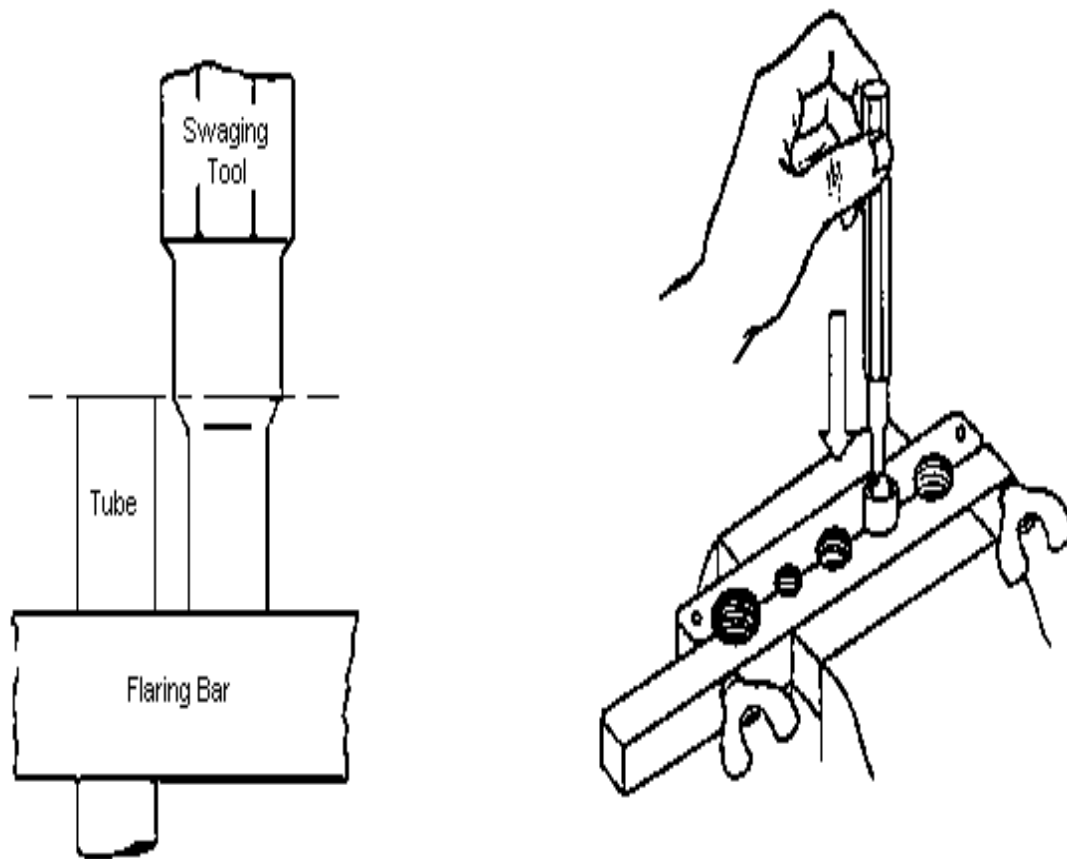

Figure 10, Standard Kit
- **Standard Kit.** The standard swaging kit consists of a swaging punch and a swaging block, as illustrated in Figure 10. The swaging punch has a small portion (called a pilot) which fits easily into the inside of the tubing, and a tapered lead which connects this pilot with an enlarged portion which is slightly larger than the outside diameter of the tube.